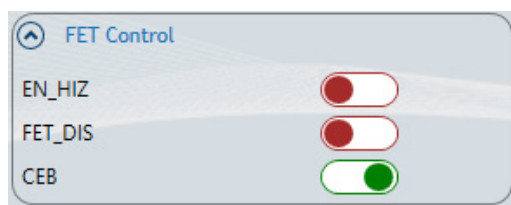

Figure 16: FET Control Setting
12. Figure 16 on page 8 shows the FET control setting.